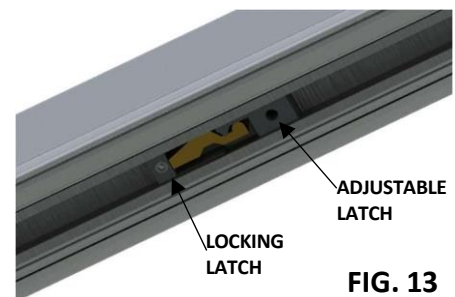

FIG. 13
2. Loosen the 4mm hex socket head set screw located on the 'locking latch'. **(Fig.13)**